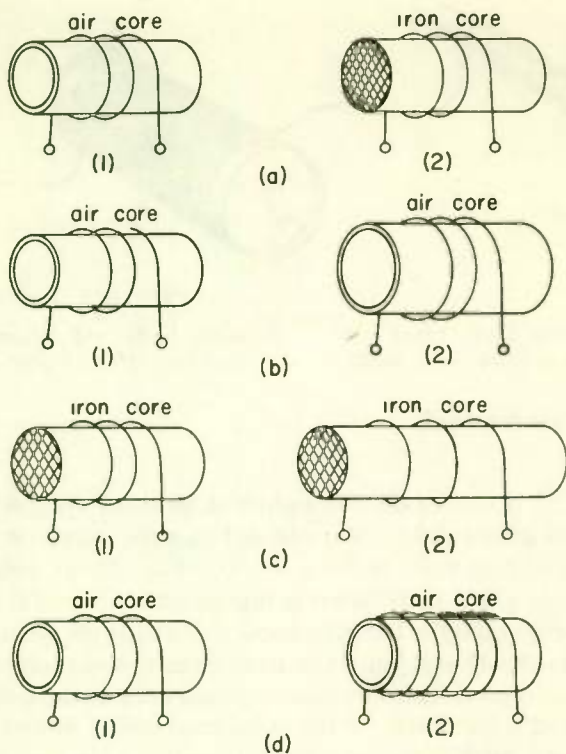

Fig. 34
6. In Fig. 34(a) *(coil 1) (coil 2)* has more inductance.
7. In Fig. 34(b) *(coil 1) (coil 2)* has more inductance.
8. In Fig. 34(c) *(coil 1) (coil 2)* has more inductance.
9. In Fig. 34(d) *(coil 1) (coil 2)* has more inductance.